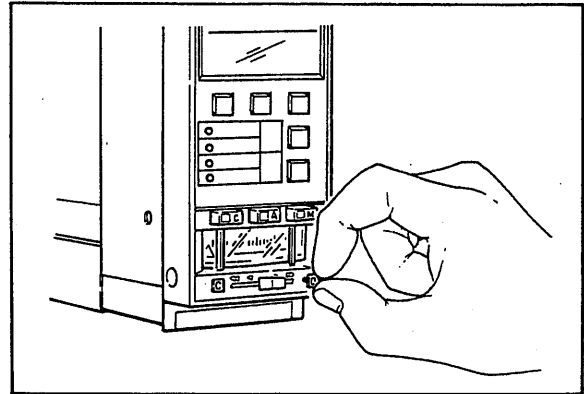

Figure 5-3-9. Mounting Control Valve Action Labels.
- (2) Mounting control valve action labels (Figure 5-3-9).